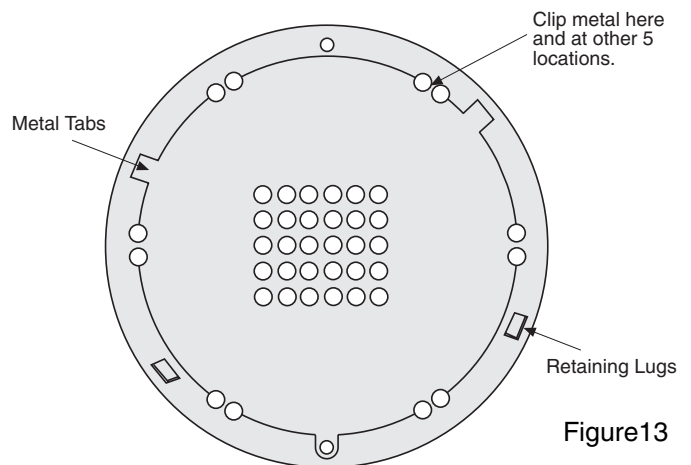

Figure13
(Refer to Figures 13 and 14 below)
- (1) Turn the unit and cut the 6 joints of the bottom plate and the motor cover using diagonal pliers (nipper). (See Figure 13)
- (2) Separate the motor cover and the bottom plate.